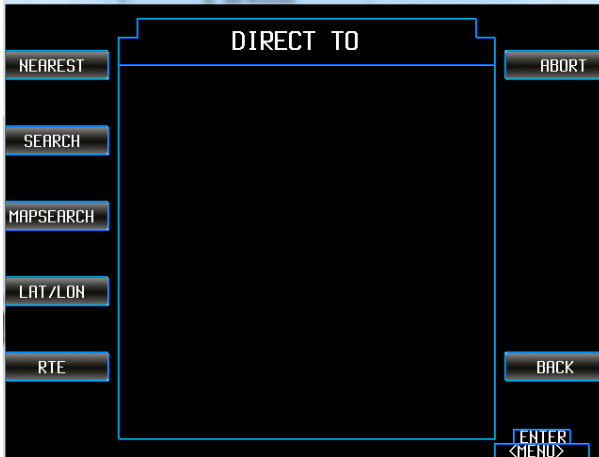
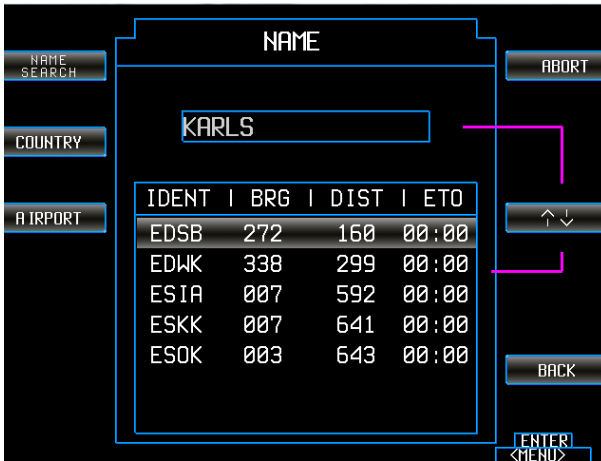

Figure 29: Direct-to "DCT", "RTE" - means planned routes are available
Figure 41: Direct-to "DCT", "SEARCH", "NAME SEARCH"
"SEARCH"	<p>Allow the selection of a waypoint by the identifier or the name.</p> <ul style="list-style-type: none"> <li>• Push the function key "SEARCH" in the Direct-to mask (Figure 29).</li> <li>• Select the function key for switching between "IDENTIFIER SEARCH" and "NAME SEARCH".</li> <li>• Remove a wrong character by pushing the function key "DELETE".</li> <li>• "COUNTRY" and "AIRPORT" reduce the number of search items (Figure 41). <ul style="list-style-type: none"> <li>○ "COUNTRY" – the search is recuded to countries.</li> <li>○ "AIRPORT" - the search is recuded to airports.</li> </ul> </li> </ul> <p>Here you will find the same search groups as already described in the chapter on NEAREST.</p>
- Push the function key "IDENTIFIER SEARCH" to switch to "NAME SEARCH" (Figure 41).